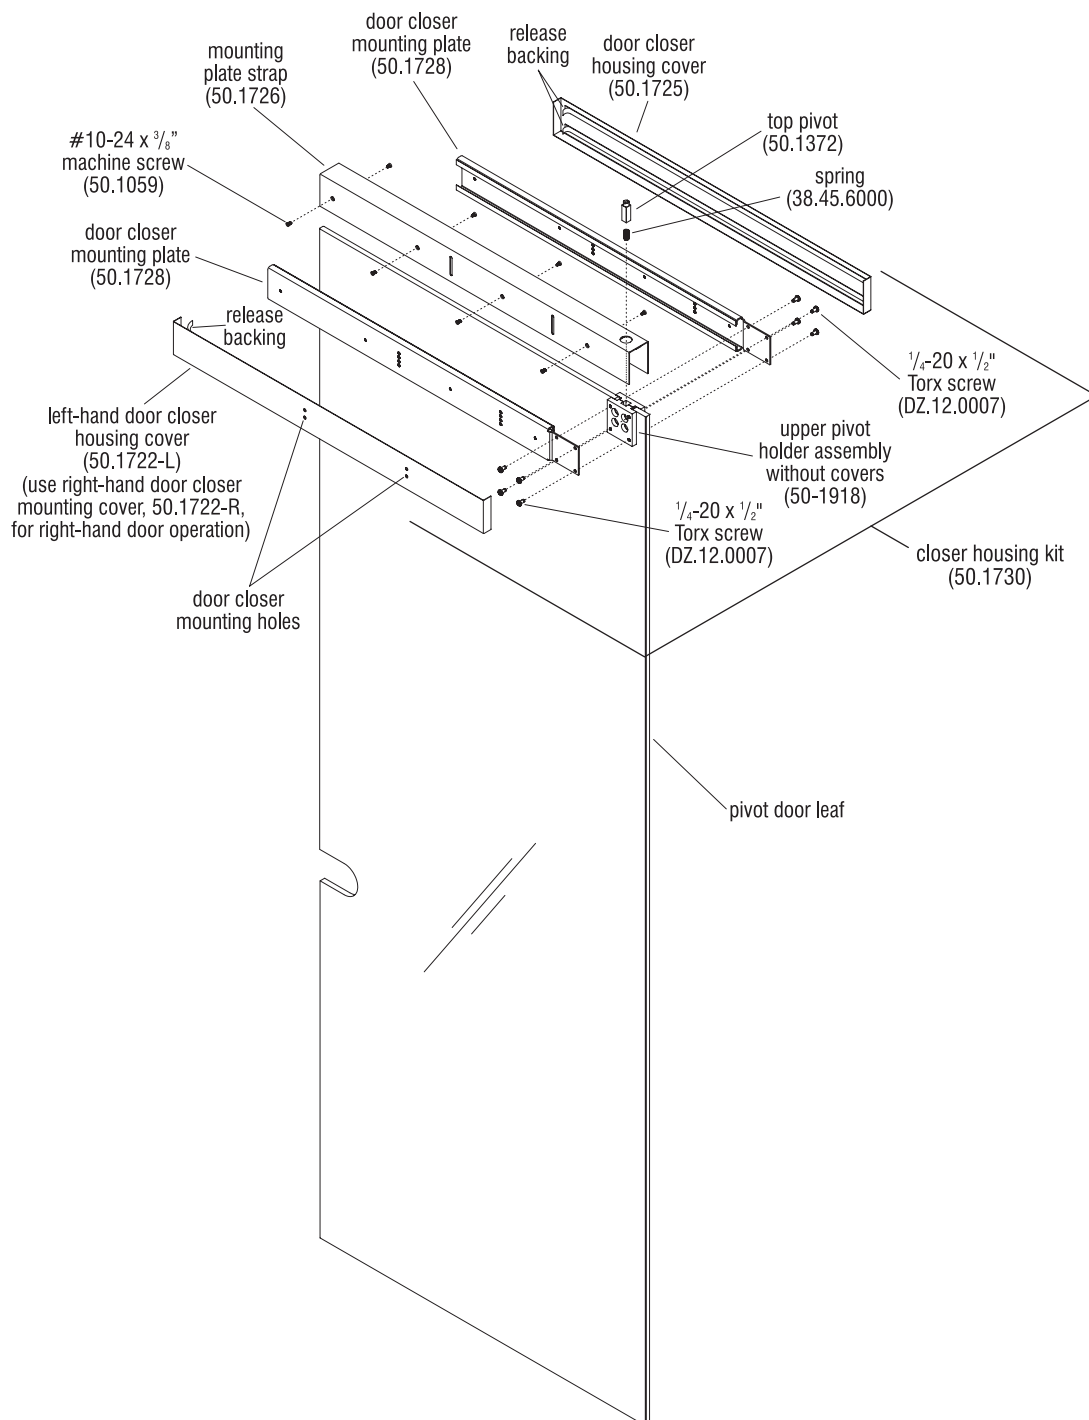

Figure 2
8. Before installing door closer housing covers (50.1722-L or 50.1725), check for correct fitment of both covers over the mounting plate strap. Make sure left-hand door closer housing cover (50.1722-L) with mounting holes is on the correct side relative to the door handing (Figure 2).
Note: Door closer mounting holes through left- or right-hand door closer housing covers (50.1722-L or 50.1722-R) are for attaching the door closer using manufacturer instructions (Figure 2).
9. Remove the release backing from the adhesive on door closer housing covers (50.1722-L or 50.1725) and press into position onto the mounting plate strap (Figure 2).